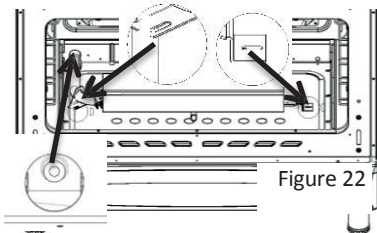

Figure 22
- Remove the mounting screws of the burner and pull the burner by 15mm to release the burner (figure 22).